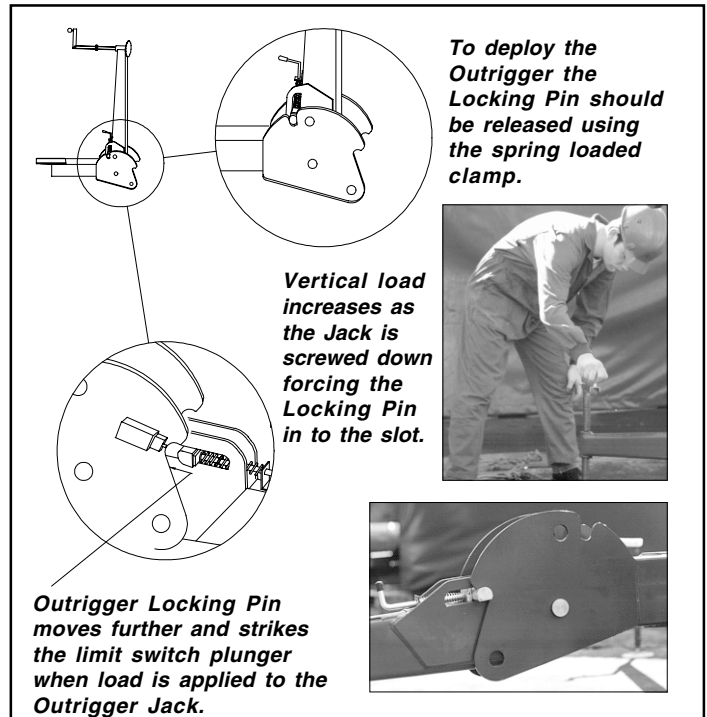

Figure 3-2: Deploying Manual Outriggers
9. For the **Manual Outrigger** version the following pre-operation inspection should be carried out. Check that all four limit switches are undamaged and then taking each outrigger in turn, pull the locking pin release lever out while simultaneously lowering the outrigger leg. Ensure the locking pin snaps into position in the lower slot. (See Figure 3-2). Lower all screw jacks until the load is just removed from the road wheels. Level the machine as necessary using the bubble level on the chassis to check in both longitudinal and lateral directions. Retract the jockey wheel until it is clear of the ground. For a more detailed description of this procedure the instructions in **Section 3.4** should be followed.
Manual Outriggers (See Figure 3-2)